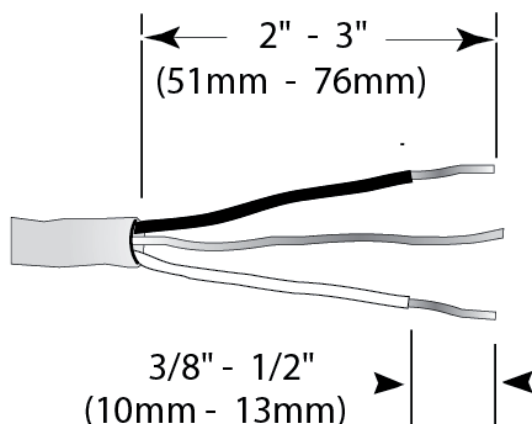

Figure 8
2. Remove 2" to 3" (51 – 76 mm) of the outer casing of the household or field supply wiring as shown in **Figure 8**. Remove 3/8" to 1/2" (10 – 13 mm) of the insulation from each wire as shown in **Figure 8**.